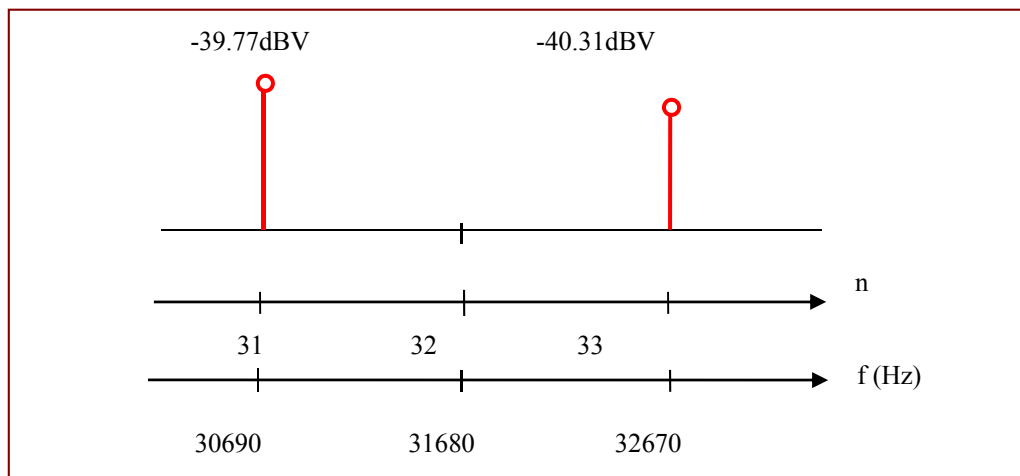

Figure 10: Harmonics $n = 31, 32$ and 33 of a rectangular signal with a duty cycle of 50%
The Fourier transform (1) has the same lines as the Fourier series (10), but the amplitudes are divided by 2. Figure 10 shows the lines for $f = 31 \times 990 = 30690\text{Hz}$ and $f = 33 \times 990 = 32670\text{Hz}$, the line at $f = 32 \times 990 = 31680\text{Hz}$ is nil based on ratio (10).
Question 9: Check that the amplitudes in Figure 10 are correct.